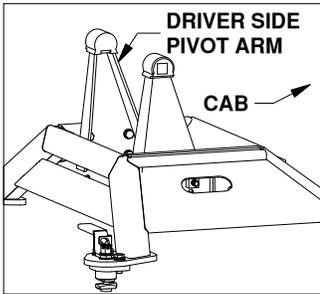
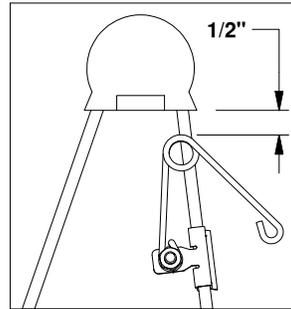

FIGURE B3: Base View
FIGURE B4: Driver side pivot arm.
2. Locate the flange which will be closest to the truck cab on the driver side pivot arm, see Figure B3. The clip should be placed so that when the springs coil is in the line with the edge of the arm there will be 1/2" of clearance between the bottom of the rubber bumper and the top of the spring, see Figure B4. Drive the clip securely onto the flange with a hammer.